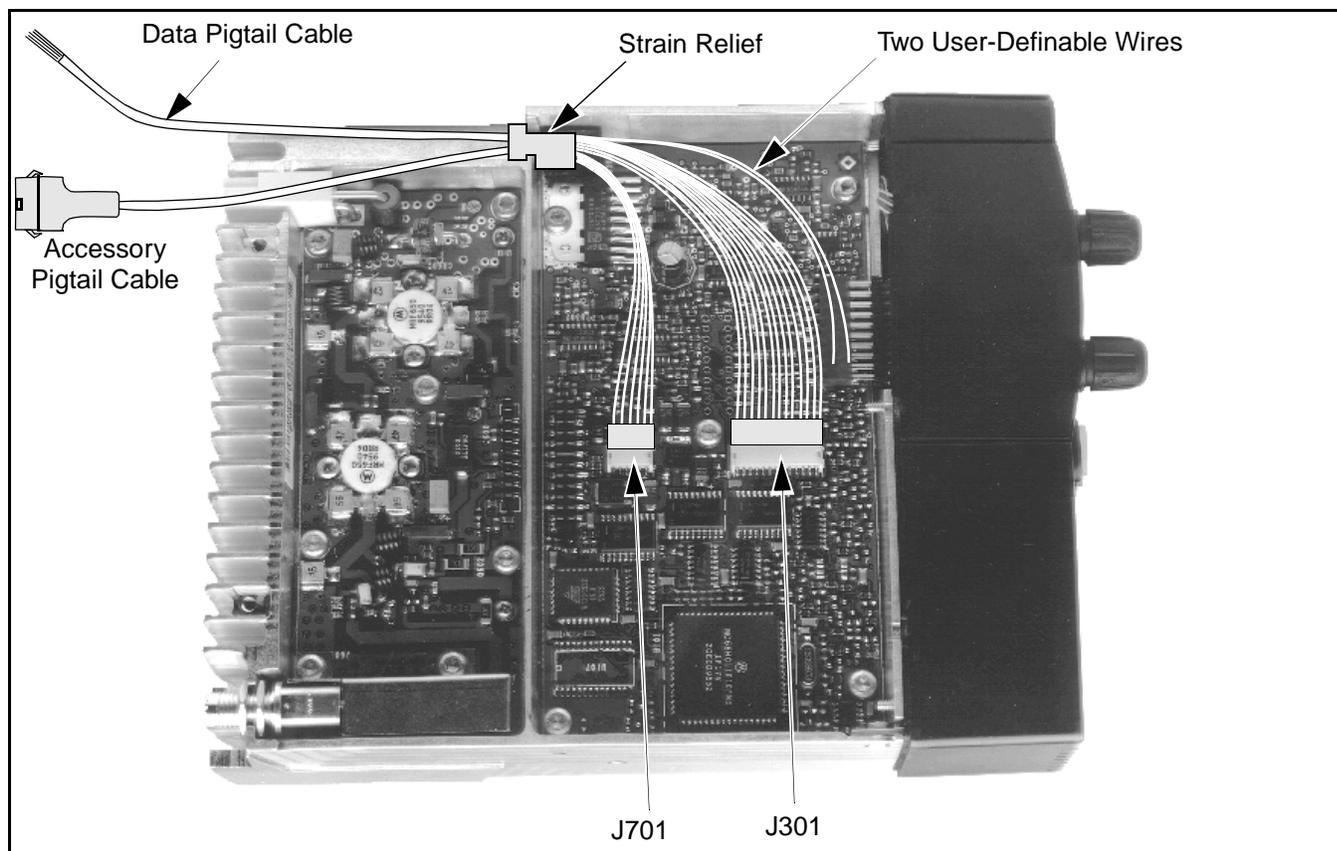

Figure 2-6 Data Cable Installation (-001 Cable Shown)
2. Refer to Figure 2-6 and plug the 13-pin connector of the data cable into J301. If also installing the accessory cable, plug the 7-pin connector into J701. Refer to Section 2.4 for more accessory cable installation information.
5. Position the strain relief grommet of the accessory/data cable in the external speaker jack slot of the chassis as shown in Figure 2-6 and reinstall the bottom cover.